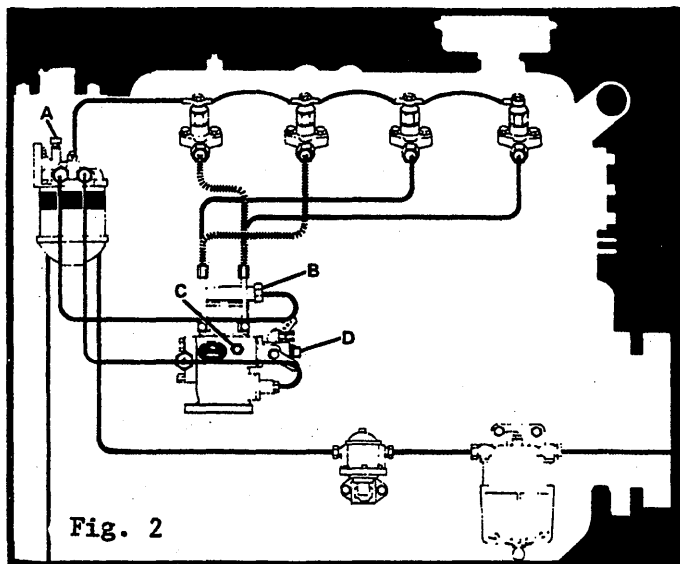
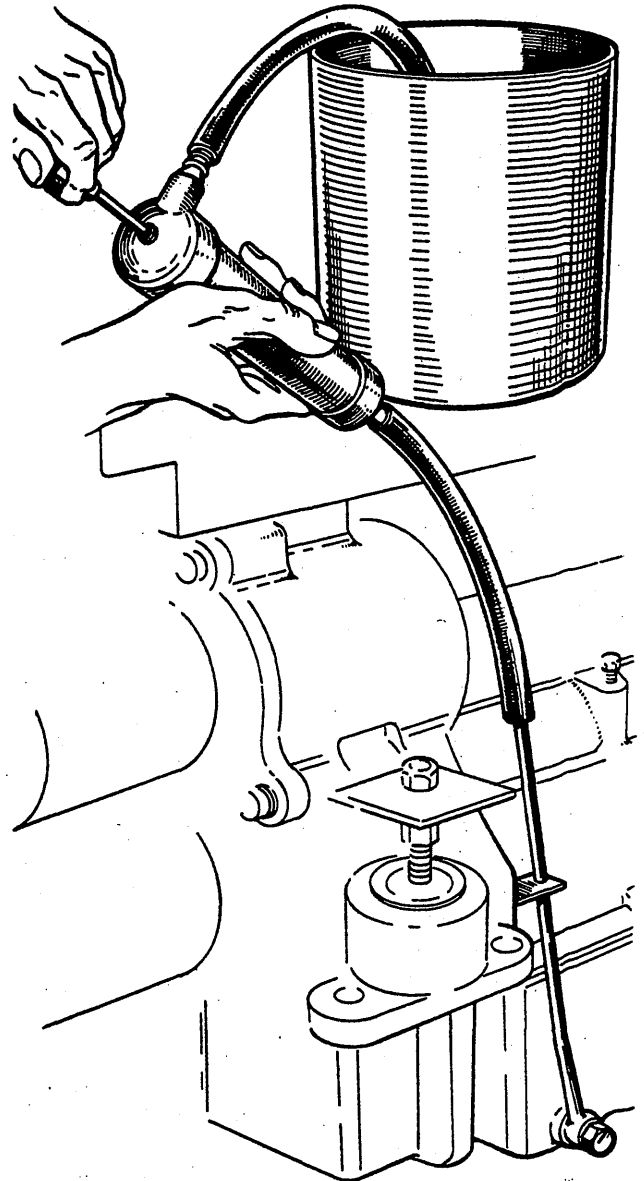

Fig. 2
FIGURE 1
Fig. 1 for mechanically governed and Fig. 2 for hydraulically governed pumps.
3. Change oil in sump. Oil may be sucked out of sump by attaching a suction hose (3/8" ID) over the outside of the oil sump pipe, located aft of the dipstick. Figure 1. See Note, next page.